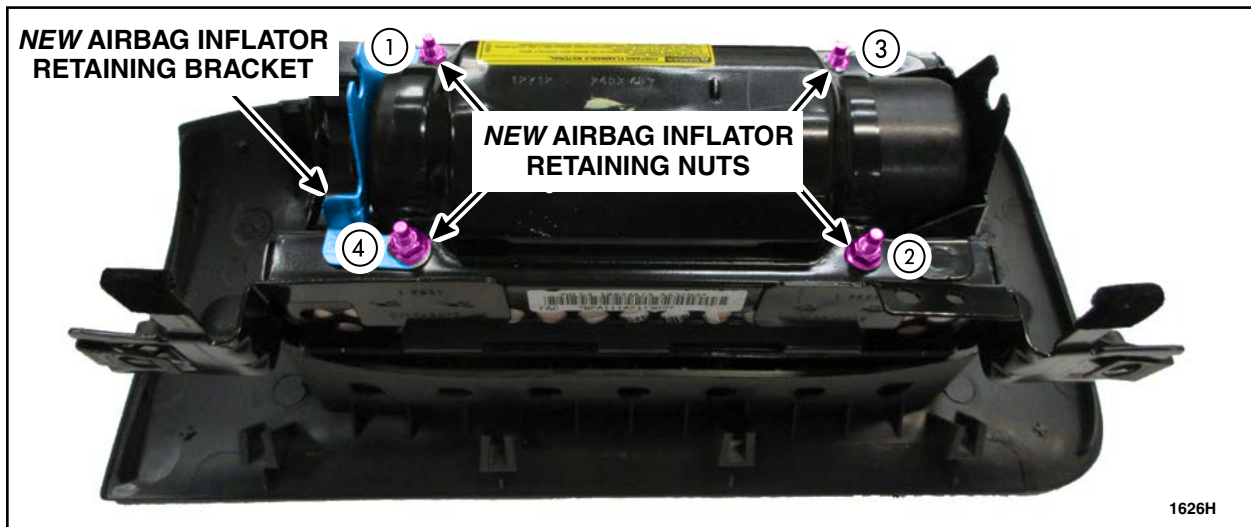

FIGURE 10
10. Install the *new* passenger airbag inflator retaining bracket and *new* nuts. See Figure 10.